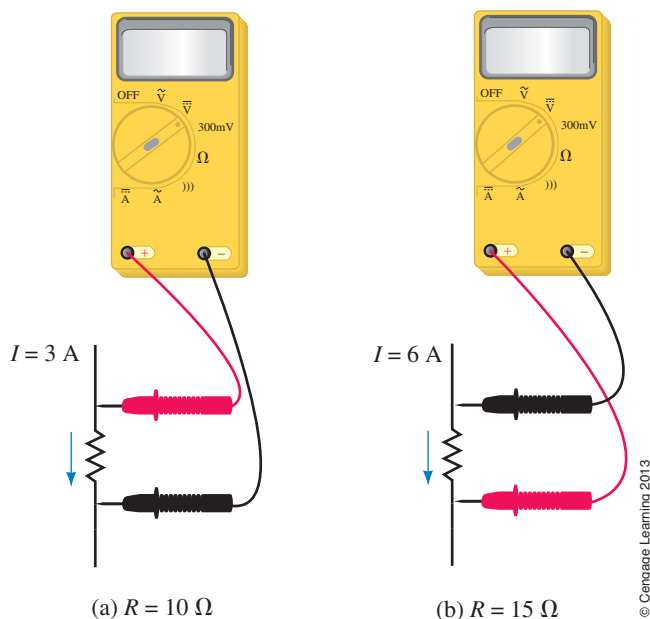

FIGURE 5–45
1. The voltmeters of Figure 5–45 have autopolarity. Determine the reading of each meter, giving the correct magnitude and sign.
2. The voltmeters of Figure 5–46 have autopolarity. Determine the reading of each meter, giving the correct magnitude and sign.